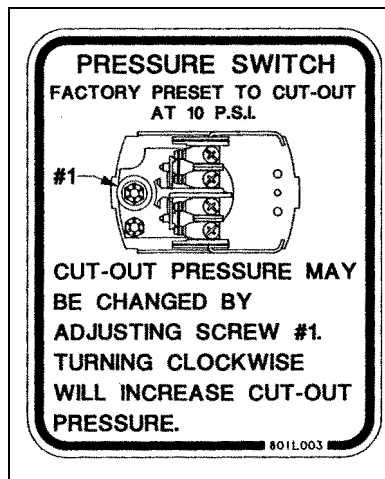

Figure 7A
**Note:** If the pressure limit is set below five (5) psi, the switch may not reset and allow the air transfer to run. (See Figure 7A).